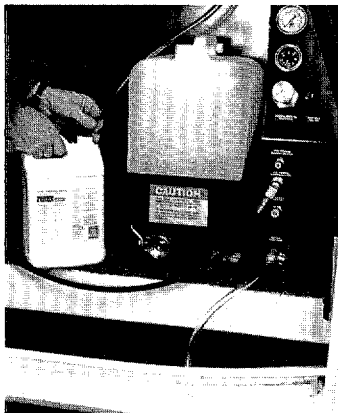

Fig. 2
3. While chemical mix tank is draining: Insert chemical feed line into antifreeze premix jug and allow meter to fill with premix anti freeze for 10 seconds. Close chemical flow meter when protected. (fig. 2)